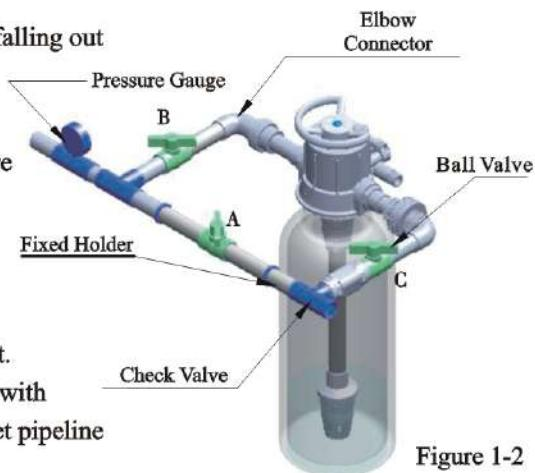

Figure 1-2
② Pipeline connection
- As the Figure 1-2 shows, a pressure gauge should be installed on the inlet pipe.